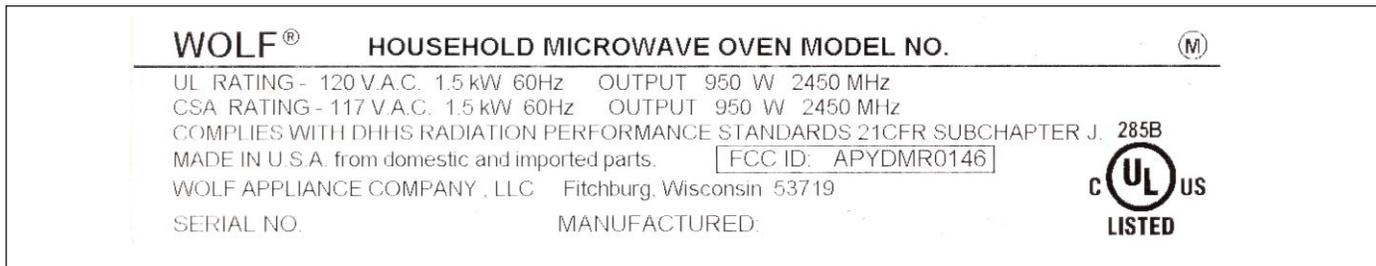

Figure 1-1. Rating Plate Label
- See Figures 1-1 & 1-2 for Rating Plate layout and location.